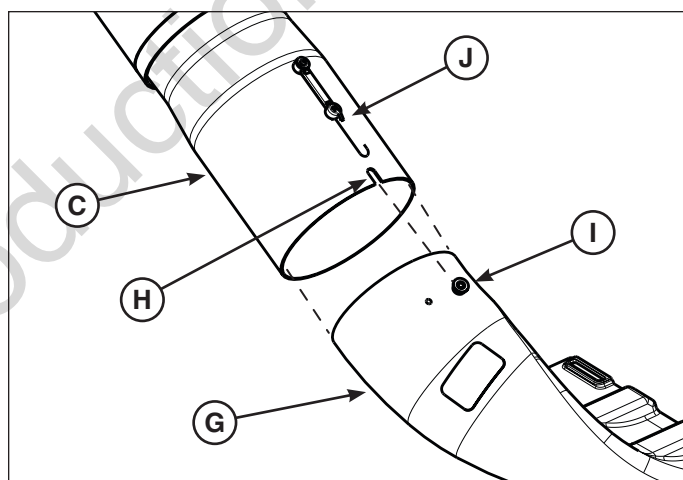

Figure 11
3. Slip the lower tube (C, Figure 11) onto the catcher boot (G), making sure the slot (H) in the lower tube slips over the tee-nut (I) on the catcher boot. Secure by hooking the strap (J) on the lower tube onto the tee-nut on the catcher boot.